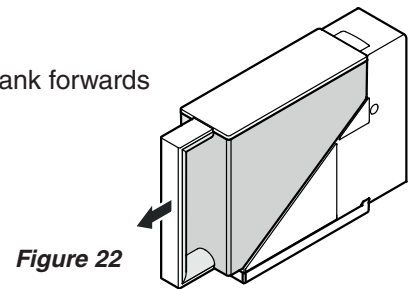

Figure 22
1. Pull out the water tank forwards (Figure 22).